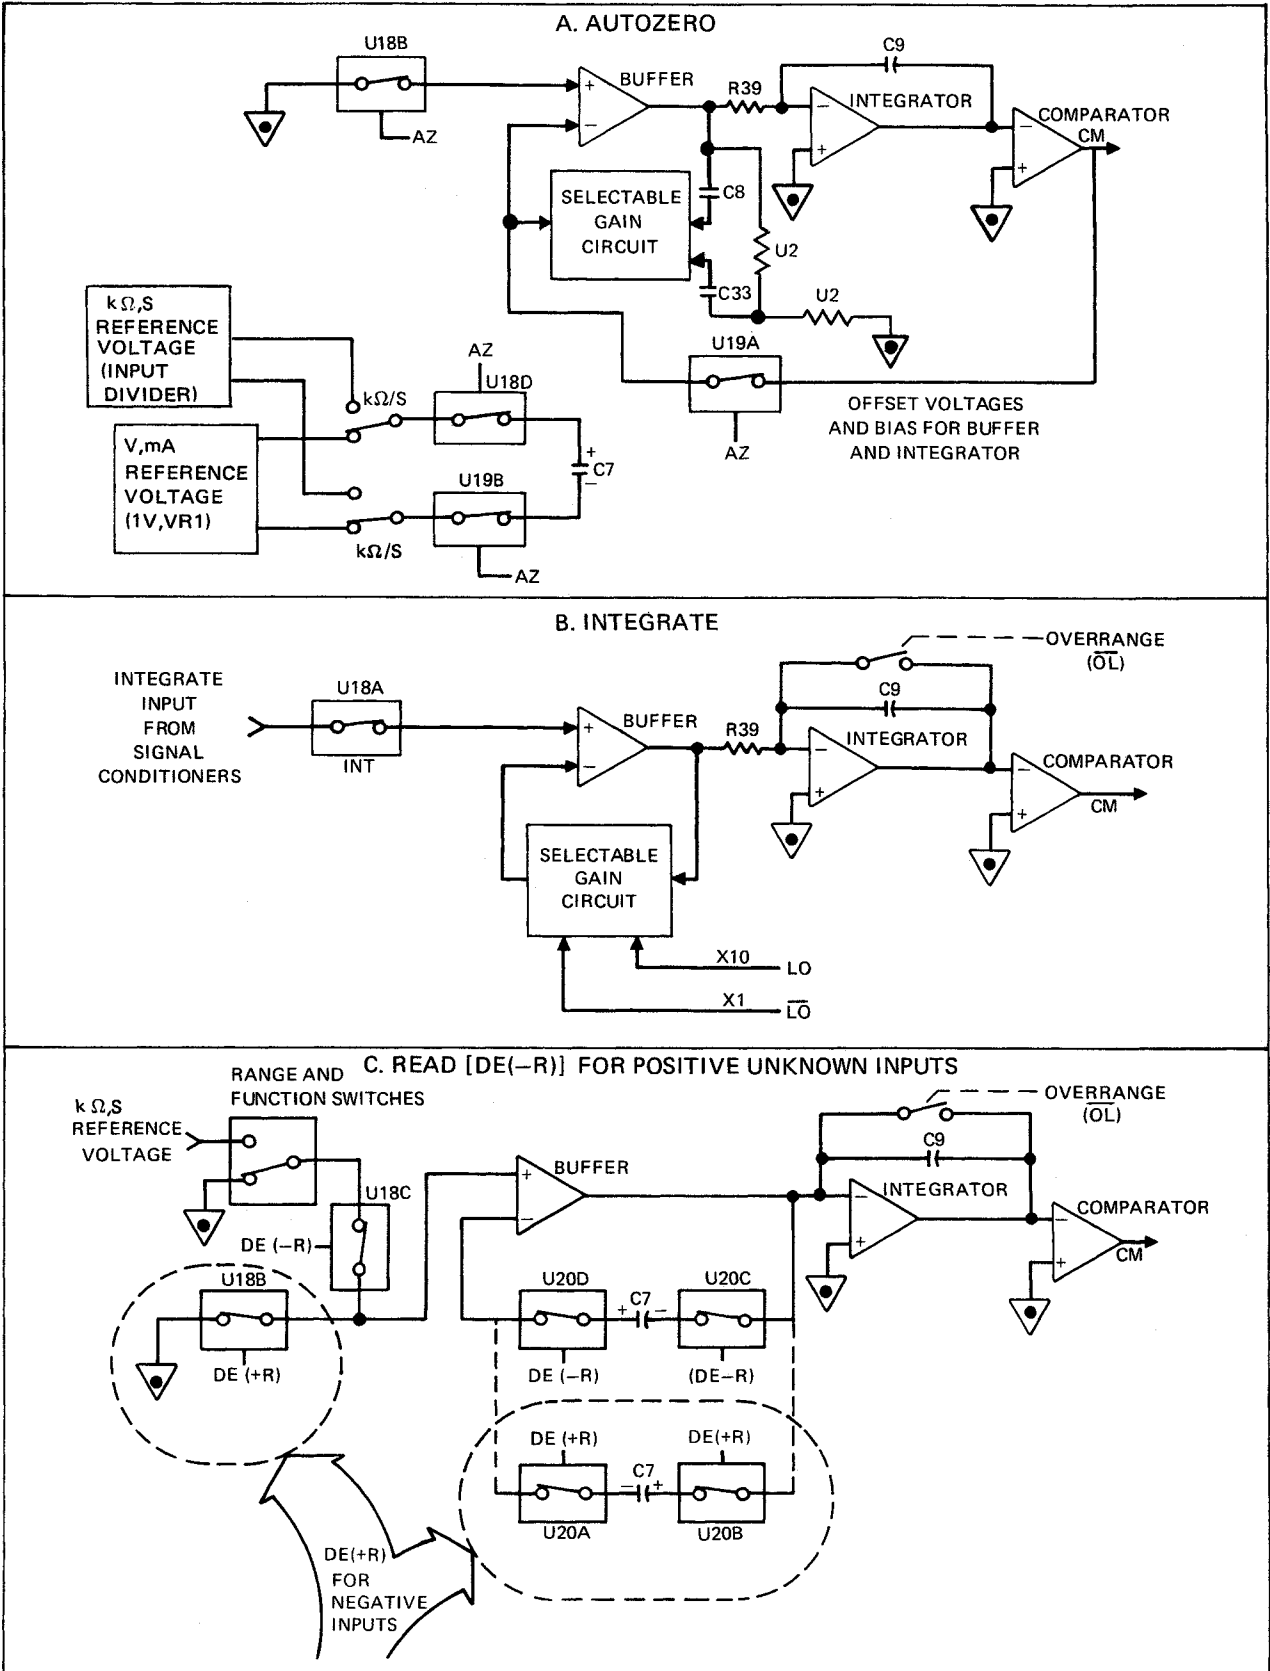
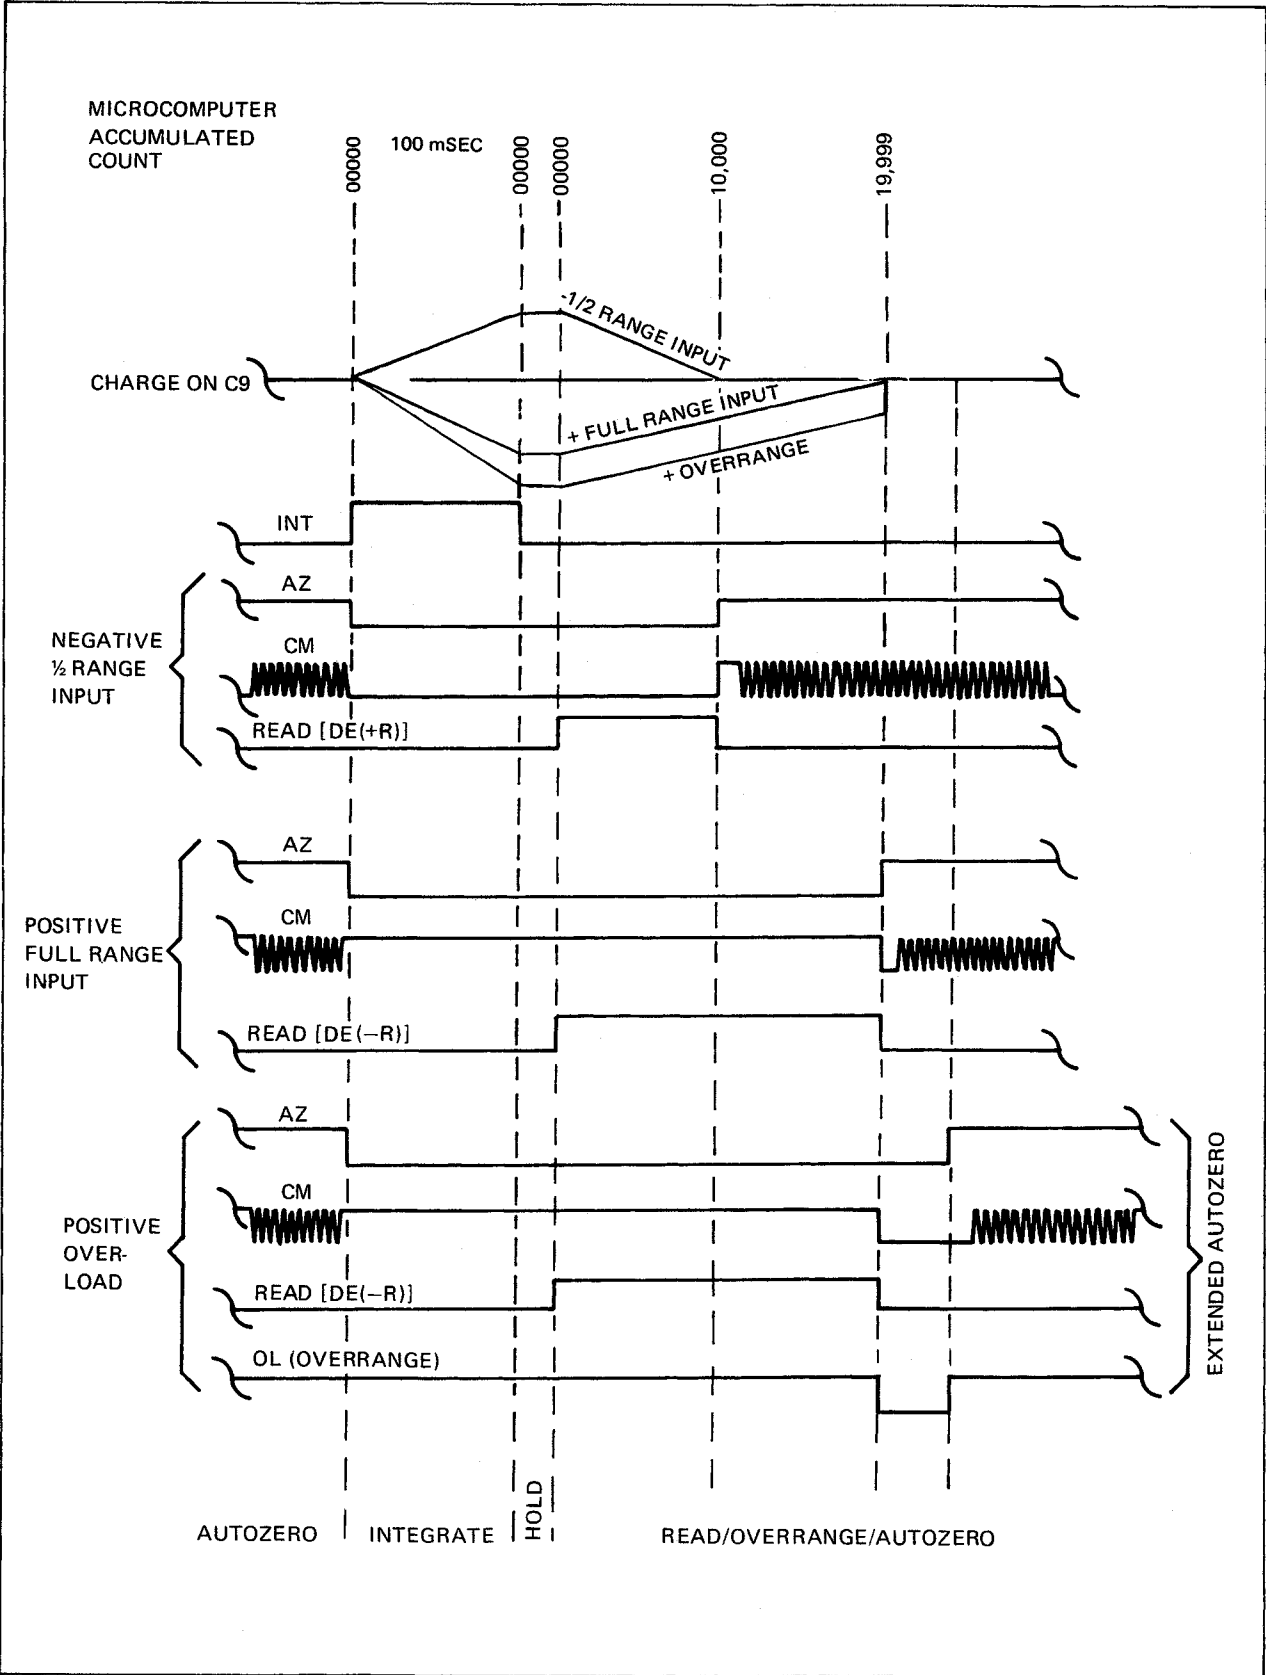

Figure 3-2. A/D Converter
Figure 3-3. A/D Converter Waveforms
3-9. The microcomputer controls the a/d converter via CMOS switches. Figure 3-2 shows the simplified circuits formed during the major periods of a/d conversion cycles. Figure 3-3 is a timing diagram that shows the a/d converter cycle resulting from three different input signals. Assume in reading the following paragraphs that the DC V function and the 2V range are selected, and the DMM is nearing the end of the Autozero period in its conversion cycle.
3-10. As Part A in Figure 3-2 shows, the CMOS switches U18B and U19A are closed, providing voltage levels that allow C8 and C33 to store the offset voltages of the buffer, integrator, and comparator. CMOS switches U18D and U19B connect the flying capacitor, C7, to a reference voltage. Since the V function is selected, C7 is charged by the a/d converter reference voltage source. At the end of the Autozero period, C7 is fully charged, C8 and C33 are charged up to the offset voltages, and the comparator output (CM) is near a threshold level.
3-11. Assume that an input of $-1.0000V$ dc is present at the DMM input (first set of waveforms in Figure 3-3). The microcomputer starts the Integrate command (INT) at the same time that it ends the AZ command. The a/d converter circuit is switched to the configuration shown in Figure 3-2, Part B. CMOS switch U18A connects the output of the signal conditioners to the input terminal of the buffer. For the 2V range, the microcomputer selects the X1 gain in the buffer, and the input from the signal conditioner is applied to the buffer and integrator in series. The integrator begins to charge C9. The instant that the charge on C9 shifts from its initial level, the comparator toggles, and its Compare output (CM) goes to a steady level. Since the unknown input to the DMM is
3-13. Since CM is negative, the microcomputer initiates the Read period with the DE (+R) (de-integrate plus reference) command (Part C of Figure 3-2), CMOS switch U18B connects the buffer input to COMMON, and CMOS switches U20A and U20B connect C7 in the buffer feedback loop so that the integrator input is a known level (1V) of the opposite polarity from the input signal. The integrate capacitor, C9, begins to discharge, and the microcomputer starts to count from 00000. The count accumulates until C9 discharges to its initial level. The instant C9 reaches its initial level, the comparator toggles CM positive, stopping the count in the microcomputer. The count in this case will be 10,000. This count (with the appropriate decimal point) is numerically the same as the -1.0000V dc input to the DMM.
3-15. The bottom set of waveforms in Figure 3-3 shows the timing that results from a positive overrange input to the DMM. If the count in the microcomputer reaches 20,000 before CM toggles, the microcomputer detects this as an overrange condition and issues the overload (\overline{OL}) command for 5 millisecond. The \overline{OL} signal shorts C9, dumping the remaining charge. The following Autozero period is doubled to 200 millisecond. The polarity of the overrange input signal is retained and displayed.